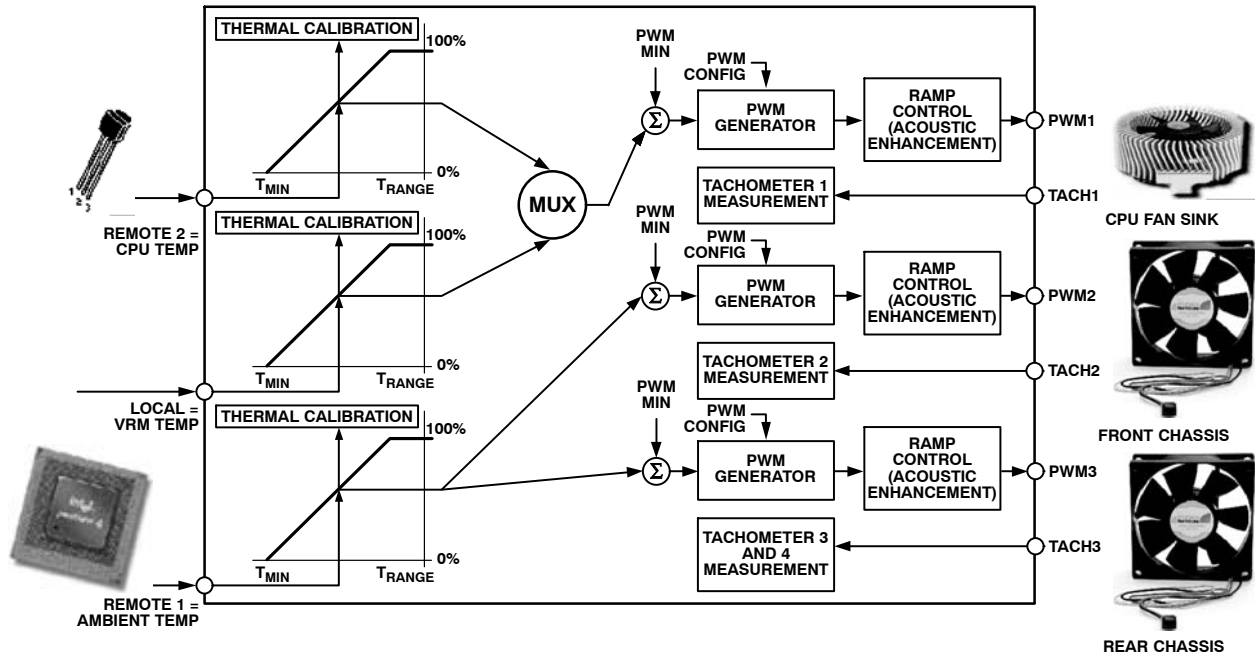

Figure 52. Mux Configuration Example
- These settings configure the mux, as shown in Figure 52.